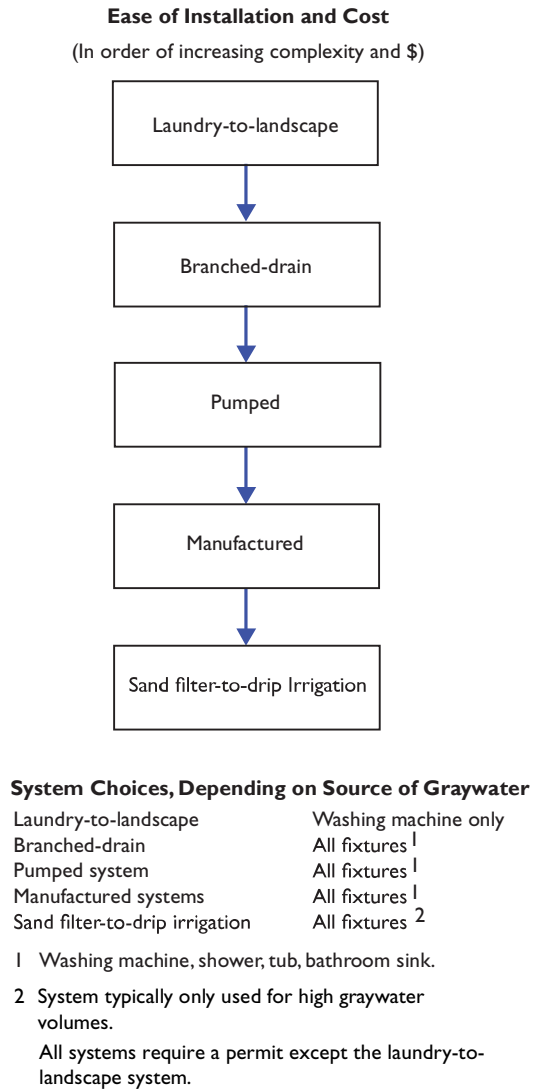

Figure 1. Guidance for choosing your graywater system.
- Before planning a graywater system, consider scheduling a free home water conservation consultation by contacting the SFPUC Water Conservation Section at (415) 551-4730 or by visiting <http://conserve.sfwater.org/>. This evaluation can help you to assess your indoor and outdoor water use and to identify ways you can lower both by fixing leaks and taking other measures.
5. Read about types of graywater systems and decide which is best for you. Figure 1 provides some guidance for your selection.